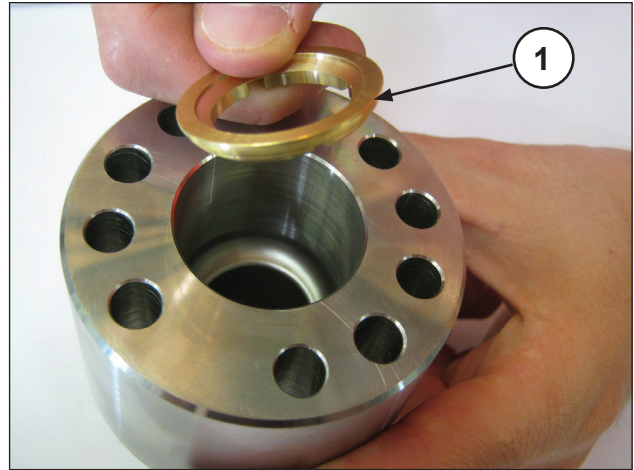
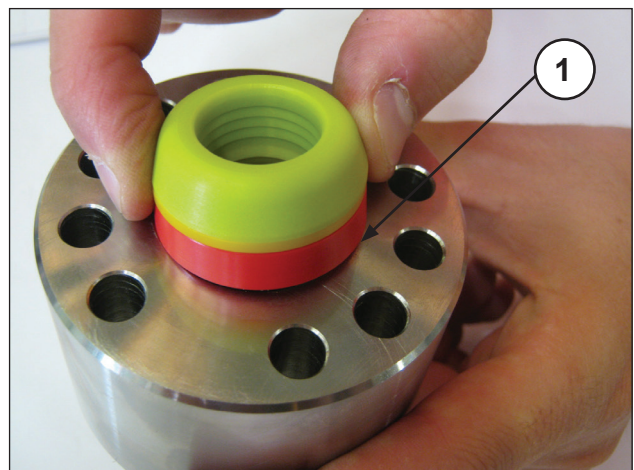
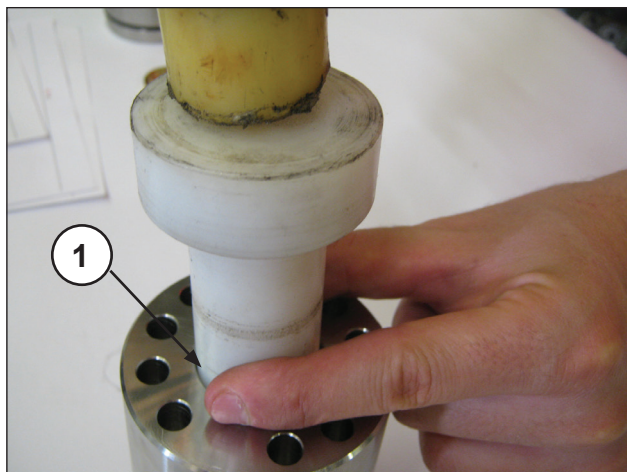

Fig. 120
Fig. 121
Fig. 122
- Introduce in the H.P. seals support, the head ring (pos. ①, Fig. 120) and then the H.P. (high pressure) packing; considering the slight interference between the seal and the H.P. seals support, to avoid damage we advise using a plastic pad (pos. ①, Fig. 121 and Fig. 122).
The H.P. seal must be placed in the support as indicated in Fig. 121 and Fig. 123.